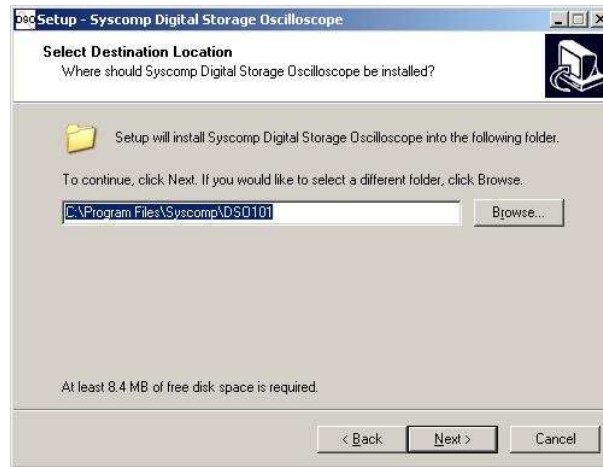

Figure 35: Select Destination Location
5. Click on **Next>>**. The screen of figure 35 appears.